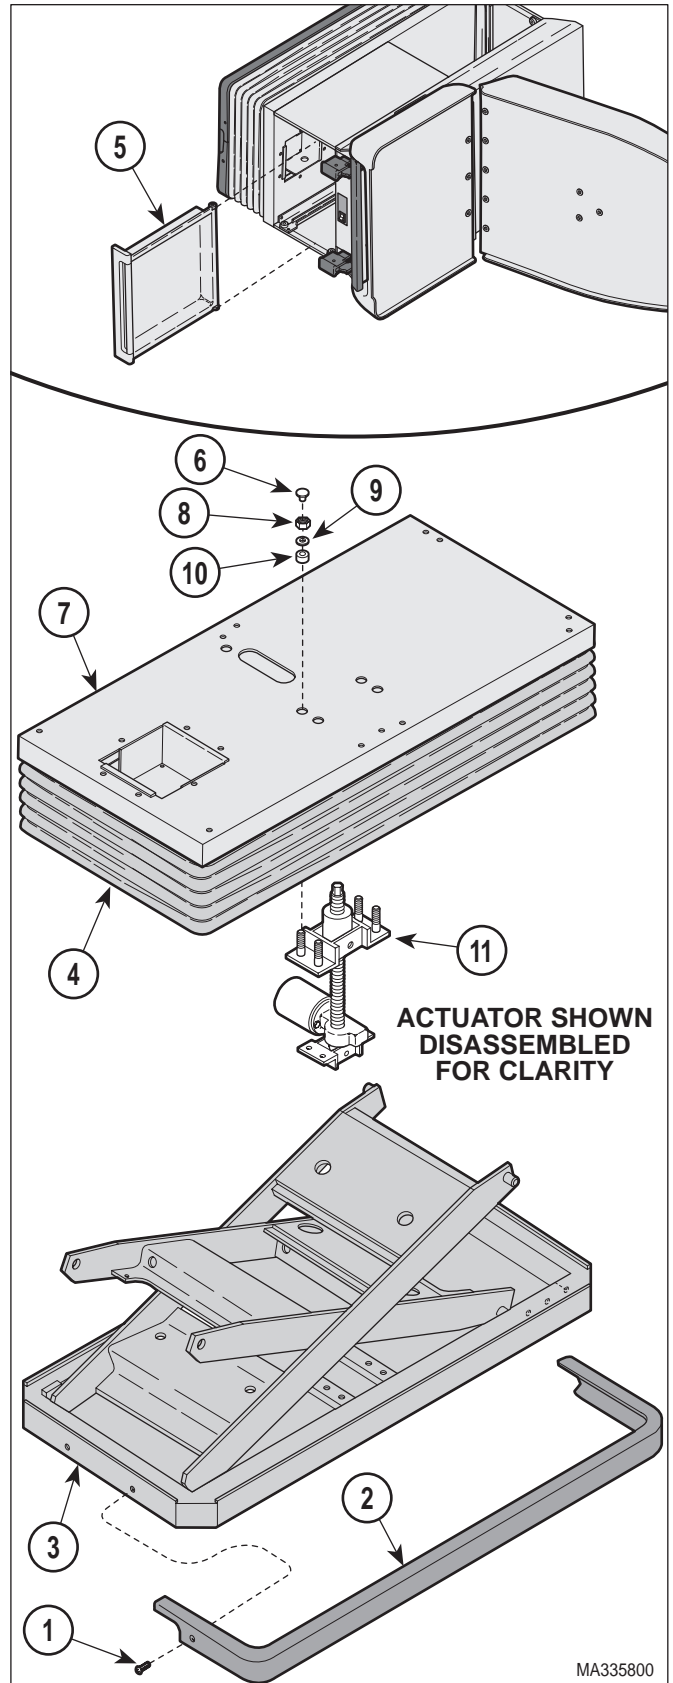
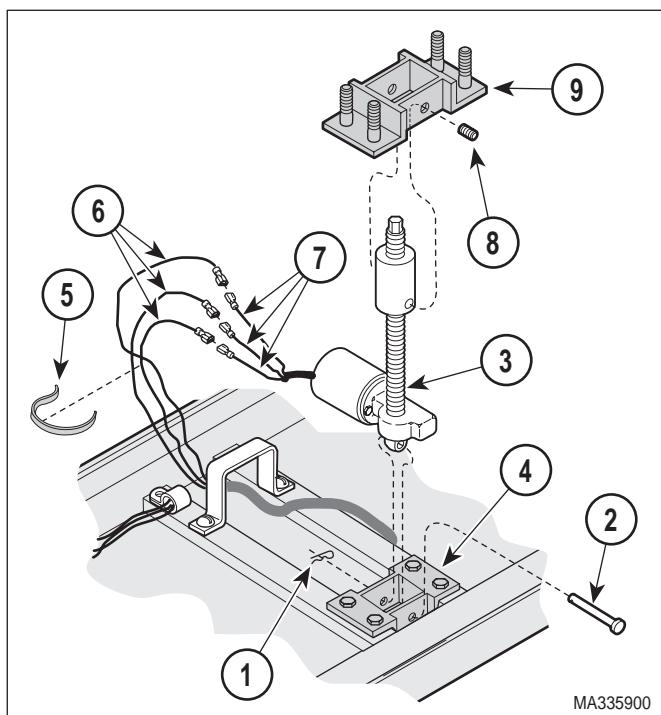

Figure 4-5. Base Actuator Shaft Disconnection
Figure 4-6. Base Actuator Removal / Installation
- (2) Unplug table power cord from wall outlet.
- (3) Remove four screws (1, Figure 4-5) and two bellows retainer trim (2) from lower base weldment (3).
- (4) Raise bellows (4) and support in the up position.
- (5) Remove all drawers (5) from table.
- (6) Lay the table onto its left side (patient's left).
- (7) Using a small screwdriver, pry four hole plugs (6) from upper wrap (7); two from each drawer set opening.
- (8) Remove four nuts (8), washers (9), and mount bushings (10), securing upper weldment hitch (11) to upper wrap (7).
- (9) Pull on lower base weldment (3) to separate upper weldment hitch (11) from upper wrap (7).
- (10) Remove hitch pin clip (1, Figure 4-6) and clevis pin (2) securing base actuator (3) to lower weldment hitch (4).
- (11) Cut cable tie (5) securing wires together.
- (1) Coat threads of two pivot screws (8, Figure 4-6) with permanent threadlocking adhesive (Loctite 262).
- (2) Install upper weldment hitch (9) on shaft of base actuator (3) and secure with two pivot screws (8), making sure to shaft of base actuator is centered in upper weldment hitch.
- (3) Position base actuator (3) in base of table.
- (4) Secure base actuator (3) to lower weldment hitch (4) with clevis pin (2) and hitch pin clip (1).
- (5) Connect three wires (6) to three actuator wires (7).
- (6) Secure wires together with cable tie (5).
- (7) Plug table power cord into wall outlet.
- (8) Carefully run TABLE UP function until upper weldment hitch (11, Figure 4-5) is close to upper wrap (7).
- (9) Unplug table power cord from wall outlet.
- (10) Connect upper weldment hitch (11) to upper wrap (7) with four mount bushings (10), washers (9), and nuts (8).
- (11) Install four hole plugs (6) in upper wrap (7); two in each drawer set opening.